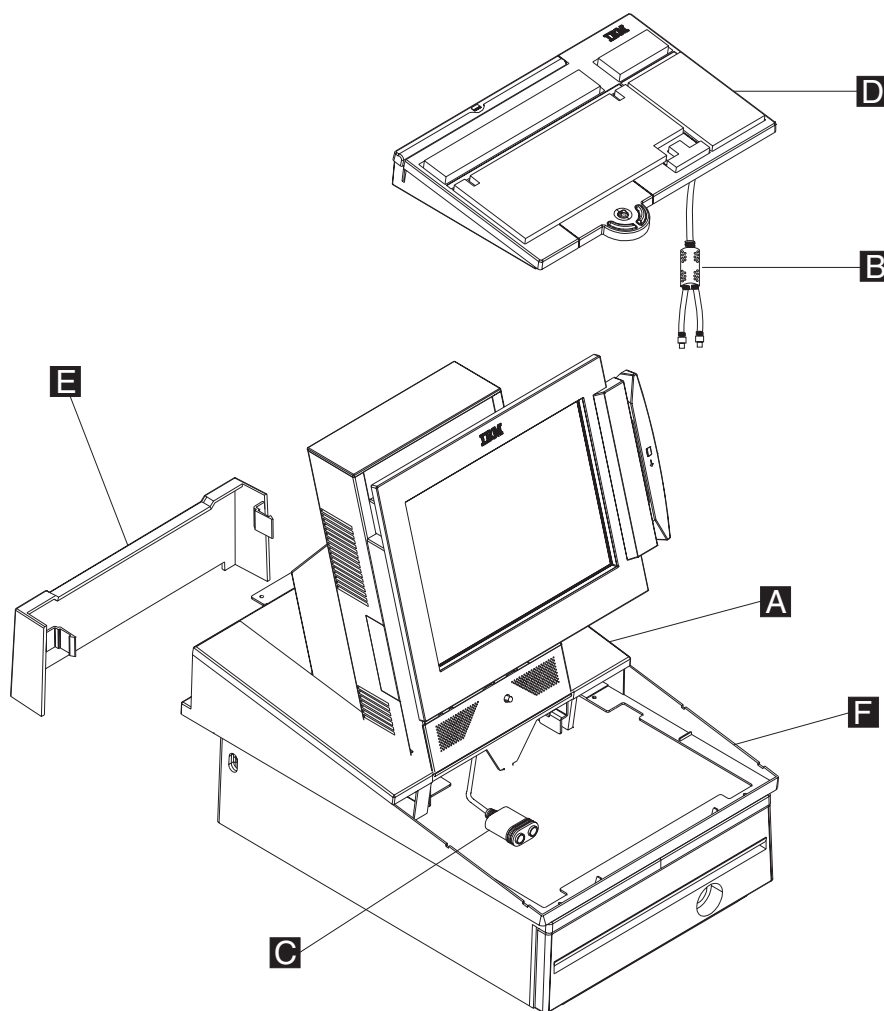

Figure 76. Removing the keyboard from the integration tray
- a. Remove the keyboard **D** by lifting the keyboard up and off the keyboard integration tray, as shown in Figure 76.
- a. Unplug the Y-cable **C** from the SurePOS 500 Models 5x3 and 544/564 front connector panel keyboard/mouse connector, as show in Figure 76. See “Connecting cables to the side access panel” on page 59 for keyboard/mouse connector location on the SurePOS 500 Models 5x3 and 544/564.